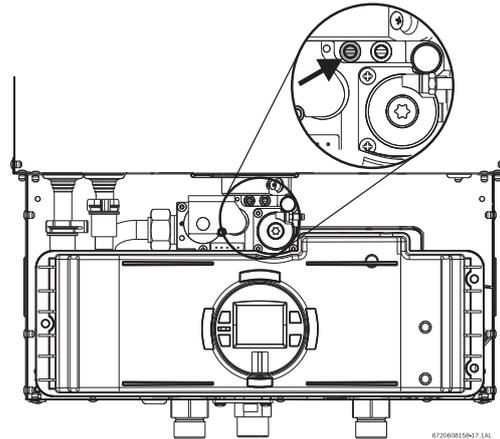

Fig. 36 Gas pressure test port (left tapping)
- ▶ Remove front cover and locate inlet gas pressure test port (see Fig. 36).